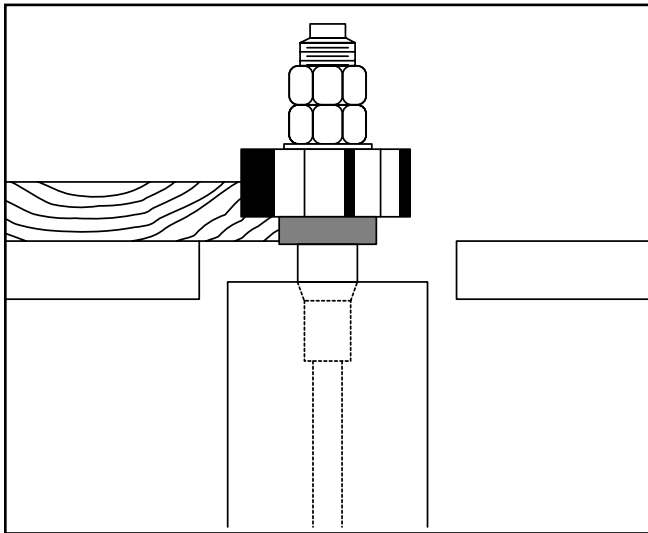

Figure 21. Cutting with rub collar below cutter.
1. **Rub collar below the cutter:** When the rub collar is placed below the cutter, **See Figure 21**, the progress of the cut can be observed. However, any unintentional movement may lift the workpiece into the cutter, damaging your work and creating a dangerous situation. *We DO NOT recommend using the rub collar in this position.*